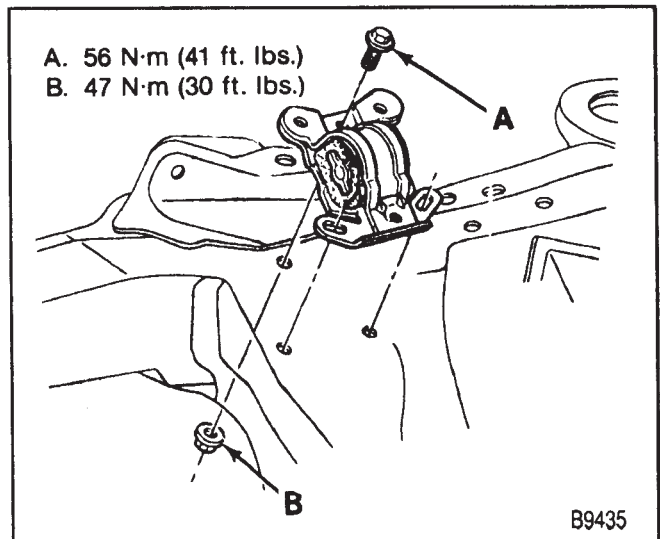

Figure 35—Front Engine Mounting to Frame
#### Remove or Disconnect (Figures 35 and 36)
#### Install or Connect (Figures 35 and 36)
- Bolts to specification. Refer to figures 35 and 36.